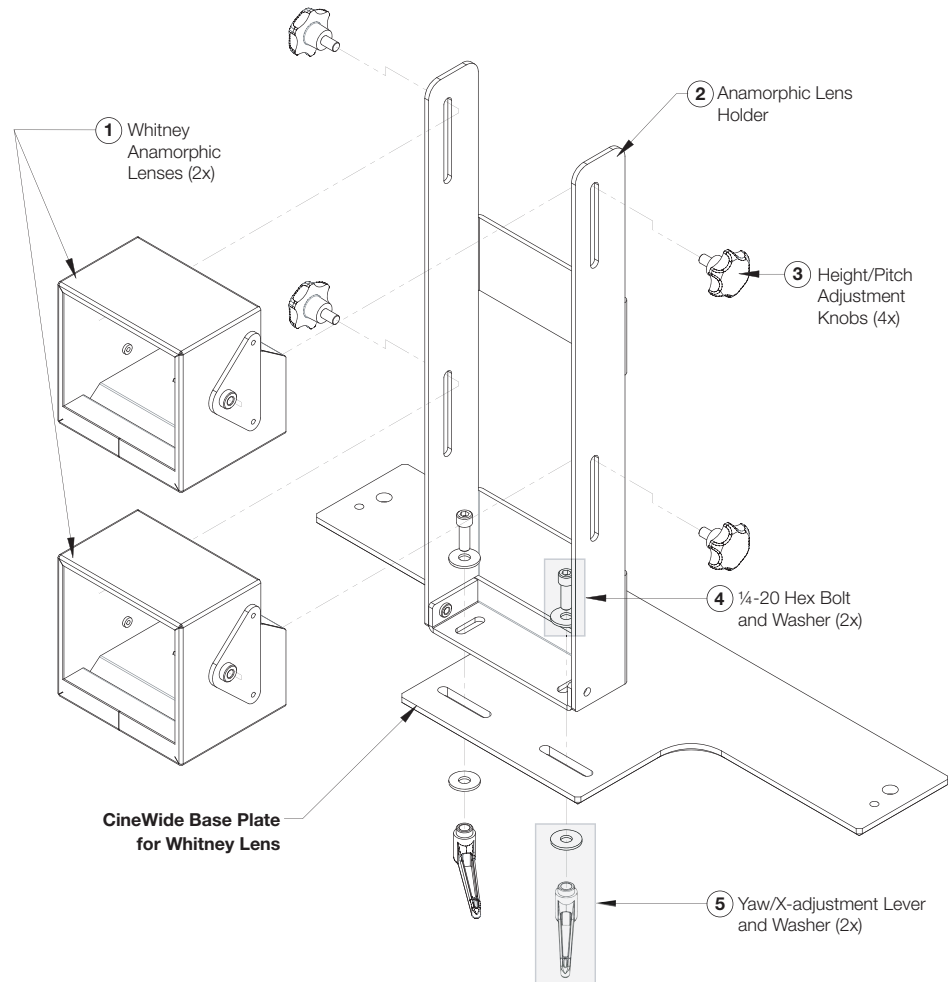
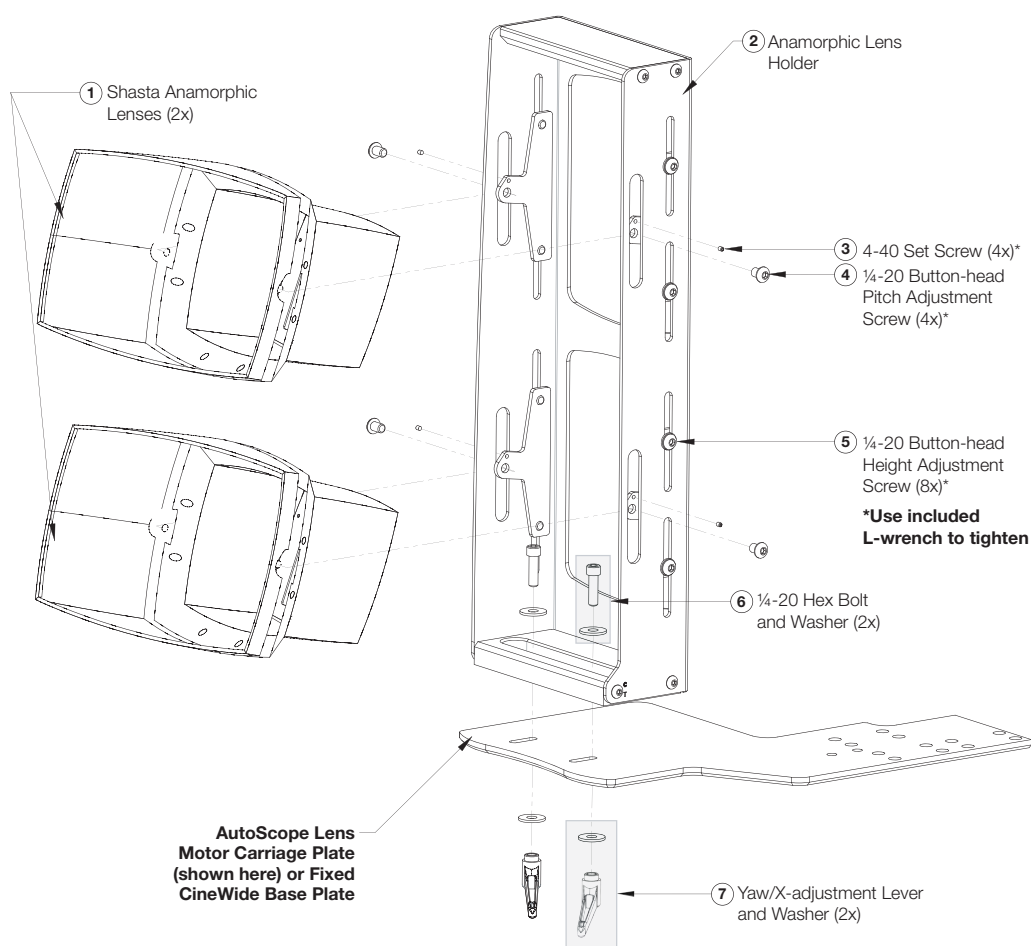

Figure 3-25. Whitney Anamorphic Lens Mounting Assembly - Exploded View
Figure 3-26. Shasta Anamorphic Lens Mounting Assembly - Exploded View
Q-1500d/CineWide - Whitney Anamorphic Lens Installation: The Q-1500d “Whitney” Anamorphic lens mount kit consists of everything shown in Figure 3-25. Some components shipped with your projector may differ slightly from what is shown in these instructions. If any items are missing or damaged, please contact your Runco dealer or Runco Customer Service at (800) 23-RUNCO.
Q-1500d/CineWide or Q-1500d/CineWide with AutoScope - Shasta Anamorphic Lens Installation: The Q-1500d “Shasta” Anamorphic lens mount kit consists of everything shown in Figure 3-26.
anamorphic lens; see Figure 3-25) or Button-head Height Adjustment Screws (Shasta anamorphic lens; see Figure 3-26) on either side of the lens. Then, slowly move the anamorphic lens into place so that there are no shadows on the top or bottom of the screen:
- **Adjusting the Pitch (Angle):** Next, angle the lens to eliminate any top-to-bottom pincushion distortion. To do this, loosen the Height/Pitch Adjustment Knobs (Whitney anamorphic lens; see Figure 3-25) or Button-head Pitch Adjustment Screws (Shasta anamorphic lens; see Figure 3-26) on either side of the lens to allow it to pivot freely. Then, adjust the anamorphic lens angle so that the projected image is rectangular: